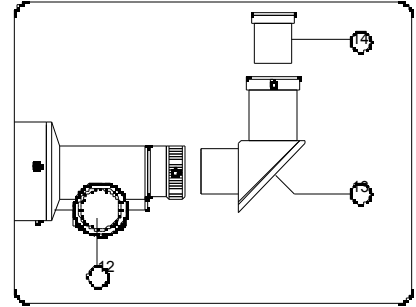

fig 2.
- Locate **Telescope Main Tube (20)**. Now, locate the **Vertical Stabilizer Bar (10)** and insert the **Vertical Stabilizer Bar** into the slot at the base of the **Altazimuth Yoke Mount (3)**. Then, secure telescope to **Altazimuth Yoke Mount** by removing **Altitude Lock Knobs (19)** from telescope and positioning the telescope between yoke. Carefully replace the **Altitude Lock Knobs** and remove lens cover from **60mm Objective Lens (1)**. Locate the **Stabilizer Bar Mounting Screw (2)** in the hardware pack. Insert the **Stabilizer Bar Mounting Screw** into the slot to secure the **Vertical Stabilizer Bar** in place.
- Locate the **Finderscope (17)** with pre-assembled **Finderscope Mount (15)**. Remove the two nuts located near the back of the **Telescope Main Tube (20)** and place the **Finderscope** and **Mount** assembly over the exposed screws. Replace the nuts, and securely tighten the **Finderscope Mount** in place.
- Locate an **Eyepiece (14)** (either the 4mm, 12mm or 20mm) and the **Diagonal Mirror (13)**. Attach the **Diagonal Mirror** as shown (fig. 2). Insert an **Eyepiece** into the **Diagonal Mirror**.